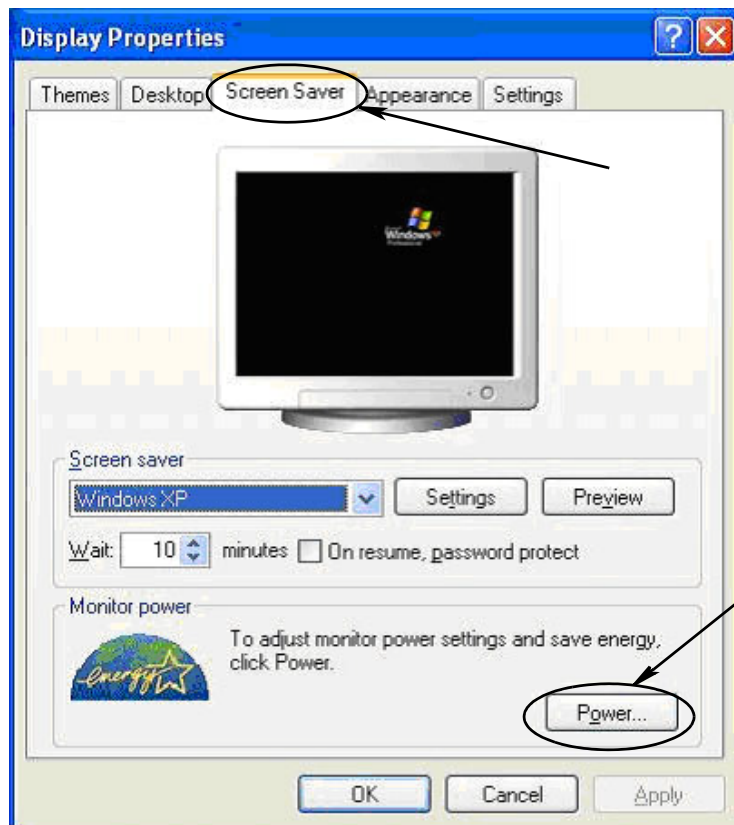

FIG. 47
2. The properties window displays. Choose the Screen Saver tab. In the Monitor Power portion of the screen, select the Power button (FIG. 47).